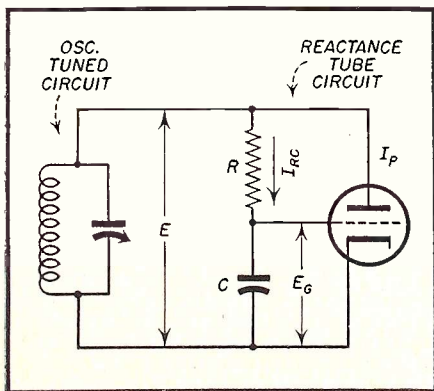
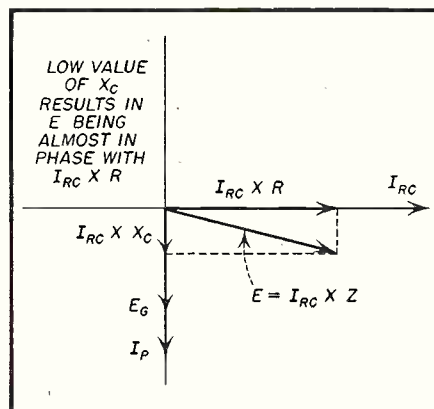

Fig. 2. Simplified diagram of a reactance tube circuit. I_p represents plate current flow in reactance tube.
Fig. 3. Vector diagram showing phase relations of voltages and currents in various branches of the partial schematic of Fig. 2.
A simplified diagram of a reactance tube circuit is shown in Fig. 2. Here we observe that the reactance tube is connected directly across the tuned circuit of the horizontal oscillator.
Just as an inductance results in a lagging current, a circuit in which a lagging current is made to flow is said to take on the properties of inductance. Therefore, if in Fig. 2 we can in some manner cause the plate current, i_p , to lag the oscillator voltage, the tube will look like an equivalent inductance as far as the tuned circuit is concerned.
In Fig. 2 we obtain a lagging current or equivalent inductance in the following manner. A resistance-condenser combination (RC) is connected across the oscillator tuned circuit. The resistance R , is purposely made very much larger than the capacitive reactance X_c , across the condenser C . Because of the low capacitive reactance in the circuit, the voltage E , is practically in phase with the current. This is shown in the vector diagram in Fig. 3.
Thus, the circuit shown in Fig. 2 is equivalent to an inductance, the basic requirement that the voltage lead the current by 90° having been met.